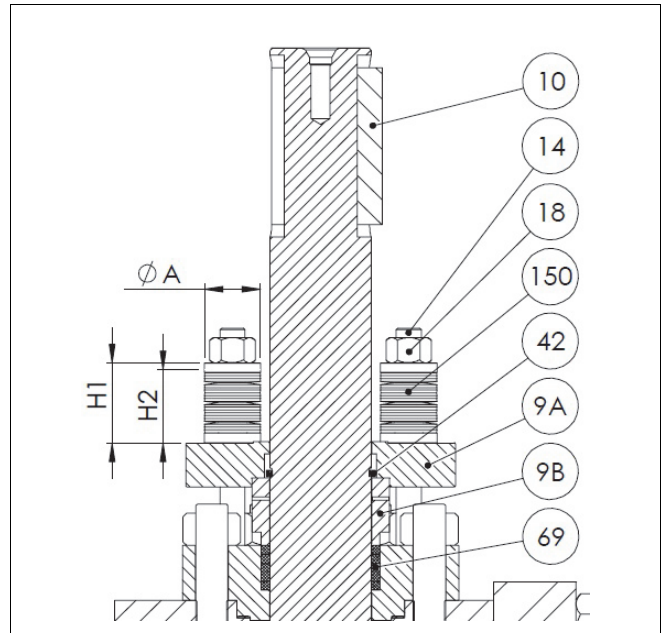

Fig. 10 Gland packing
- Remove the key (10).
- Remove the nuts (18), the disc spring sets (150) the gland (9A), retainer ring (42) and sleeve (9B).
- Remove old packing rings (69). Do not damage the surfaces of the packing ring counterbore and shaft.
- Place the new packing rings (69) over the shaft (5). The gland follower may be used for pushing the rings into the counterbore. Do not damage packing rings in the shaft keyway.
- Pre-compress the packing rings first either by tightening the gland nuts (with or without disc springs) to the torque T_t or by tightening the gland with disc springs to the height H_2 . See Fig. 10 and the value from Table 1.